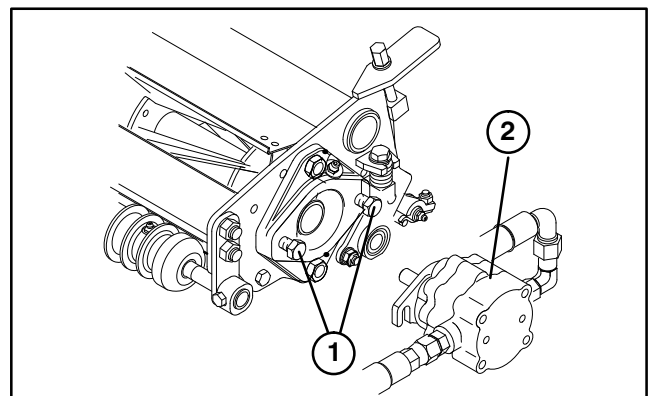

Figure 9
5. Assemble the mounting capscrews for the reel drive motor to each cutting unit. Leave approximately 1/2 in. of threads exposed on each mounting capscrew (Fig. 9).
8. Coat the spline shaft of the motor with clean grease and install the motor by rotating the motor clockwise so the motor flanges clear the studs. Rotate the motor counter-clockwise until the flanges are encircling the studs and tighten the mounting capscrews (Fig. 9).